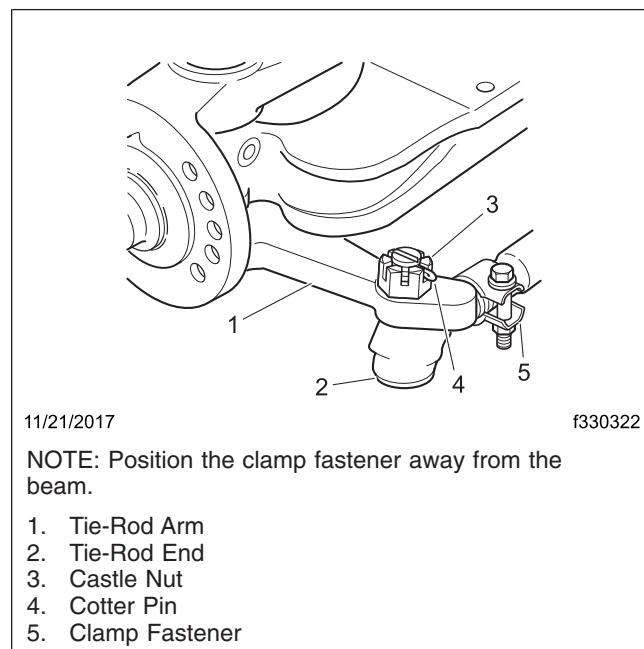

Fig. 11, Castle Nut and Clamp Installation
5. Remove the cotter pin and castle nut. See Fig. 11.